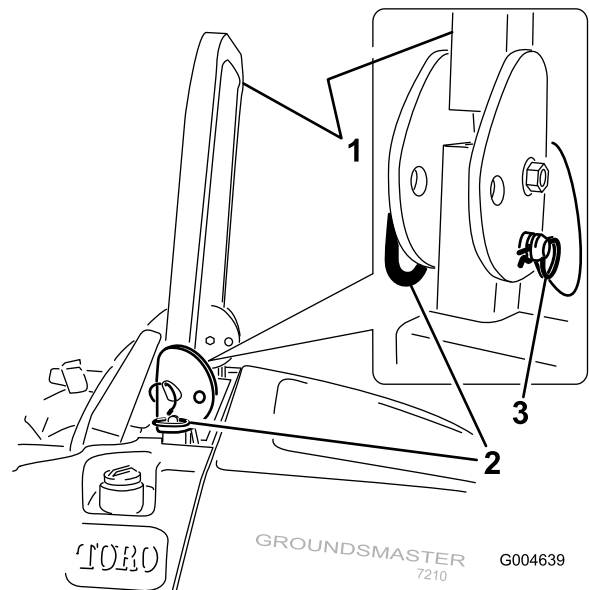

Figure 11
1. To lower the roll bar, remove the hairpin cotters, push the roll bar forward against the springs, and remove the two pins (Figure 11).
3. Install the two pins and secure them with the hairpin coter pins (Figure 11).
4. To raise the roll bar, remove the hairpin cotter pins and remove the two pins (Figure 11).
5. Raise the roll bar to the upright position and install the two pins and secure them with the hairpin cotter pins (Figure 11).